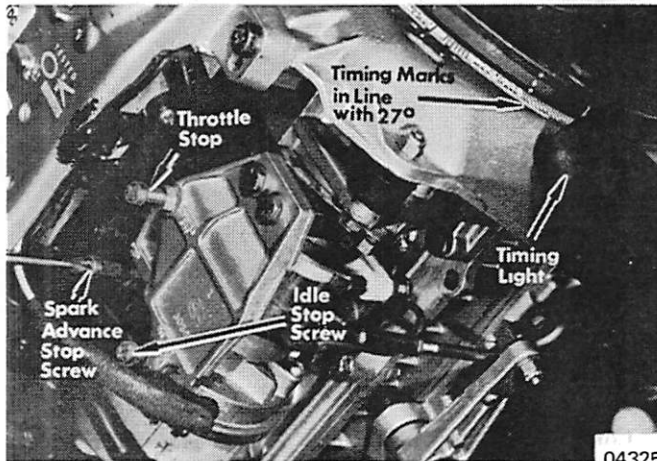

Figure 4. Spark Advance Adjustment
1. Turn ignition key on, crank engine and hold timing lite in line with degree marking on top cowl support frame. Advance the vertical lever until timing mark (3 dots) on the flywheel is aligned with timing mark on timing decal. (Figure 4)
2. Adjust spark advance stop screw (Figure 4) in or out until correct timing is obtained.
2. Adjust "throttle stop" screw on stop bracket (Figure 4) to allow full throttle shutter opening but not to allow throttle shutters to act as a stop or the carburetor cluster to hit carburetor filter bowl.